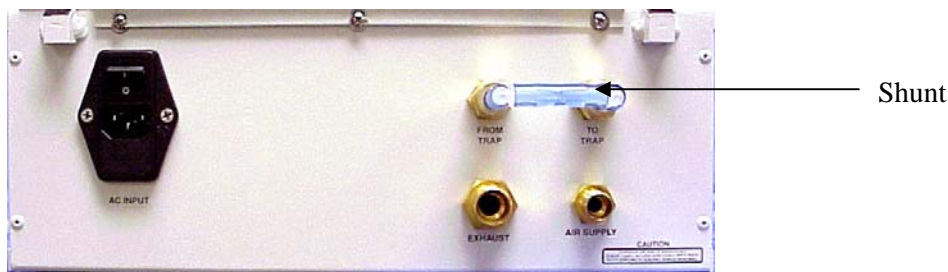

Figure 4-1: Back of Speed-Vap III showing shunt
- Step 6)** The Speed-Vap™ comes with a shunt connected to the fittings labeled **From Trap** and **To Trap** (refer to Figure 4-1). Do not remove the shunt if not using the Speed-Vap™ in conjunction with the Solvent Trap™. Proceed to Step 13 if not using the Solvent Trap™.
- Step 7)** Remove the shunt connected to the fittings labeled **From Trap** and **To Trap** of the Speed-Vap™, if using in conjunction with the Solvent Trap™ (refer to Figure 4-1).